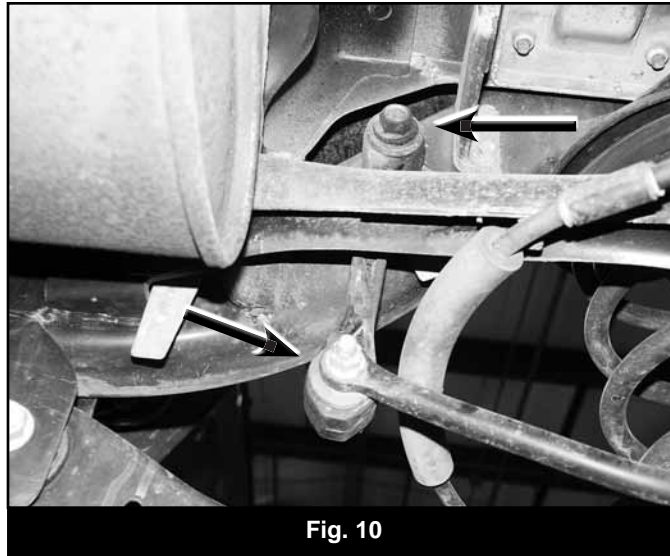

Fig. 10
6. Remove the OE sway bar links (Fig 10). The links will not be reused.